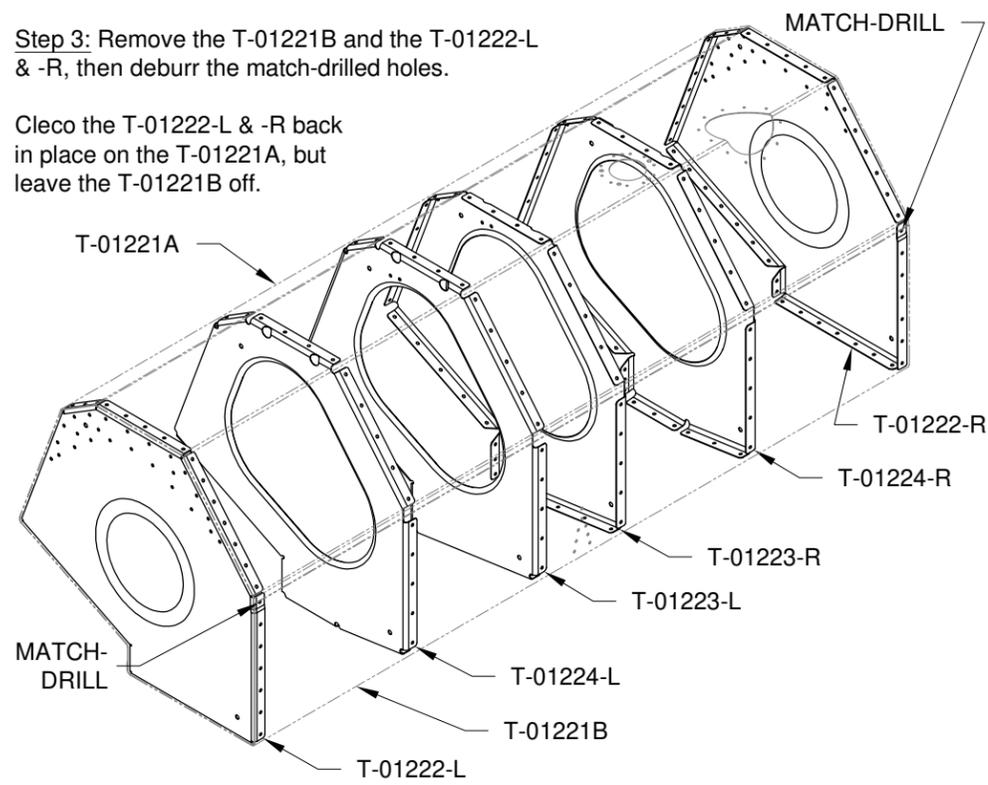

FIGURE 1: TANK SKINS AND RIBS
Step 1: Cleco the ribs to the tank skins as shown in Figure 1. The front and the back of the T-01221B overlap the T-01221A.
Step 2: Using a sharp drill bit and light force, match-drill #30 the indicated hole in both ends of the T-01221A & B into the T-01222-L & -R as called out in Figure 1.